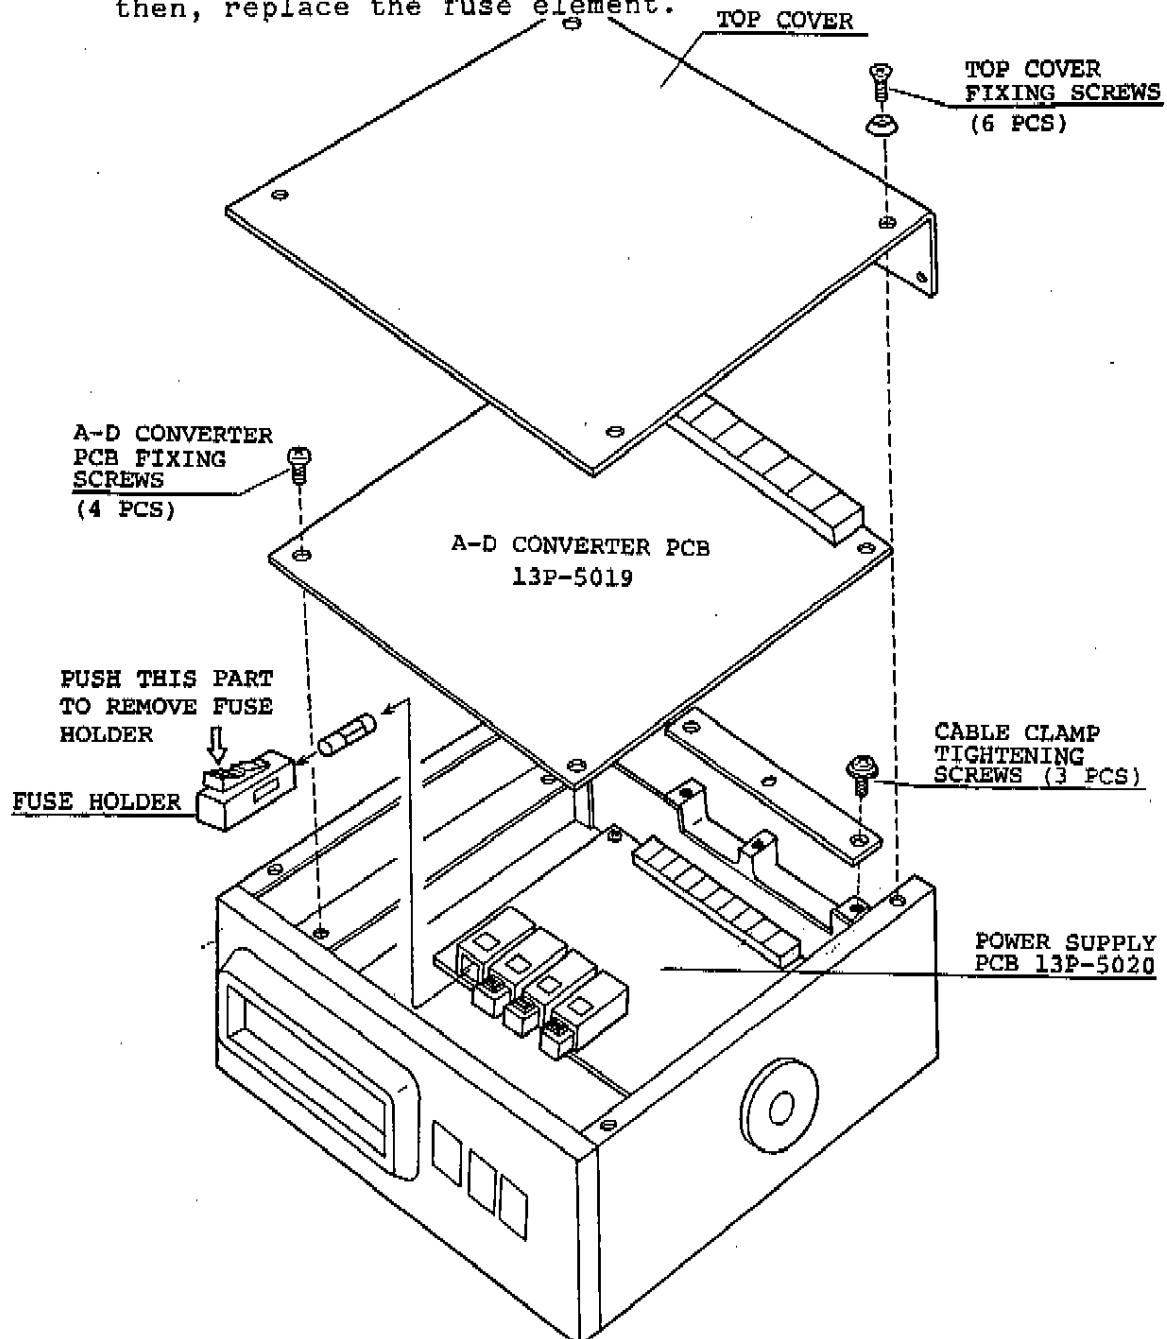

Fig. 2 A-D Converter Exploded View
- 3) Remove the fuse holder by pushing the part shown in Fig.2, then, replace the fuse element.